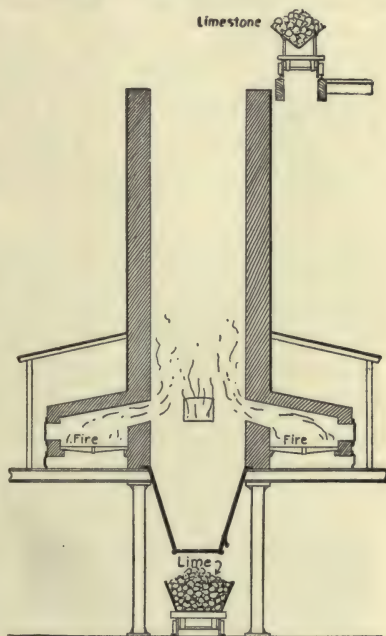

FIG. 287. — A lime kiln.
**Mortar, cement, and concrete.** — Rocks could not be used satisfactorily for building purposes unless there were some substance to fasten them firmly together. The stones of a house would be loose and unstable unless united by mortar or cement. Mortar is made from limestone which is broken up into large lumps, and heated for hours in strong kilns (Fig. 287). Under the action of intense heat, the limestone changes to quicklime or unslaked lime. The quicklime is packed in barrels and kept in a dry place. When ready to be used for mortar, it is mixed with enough water to make it a thick paste, and into this thick paste sand is slowly stirred.